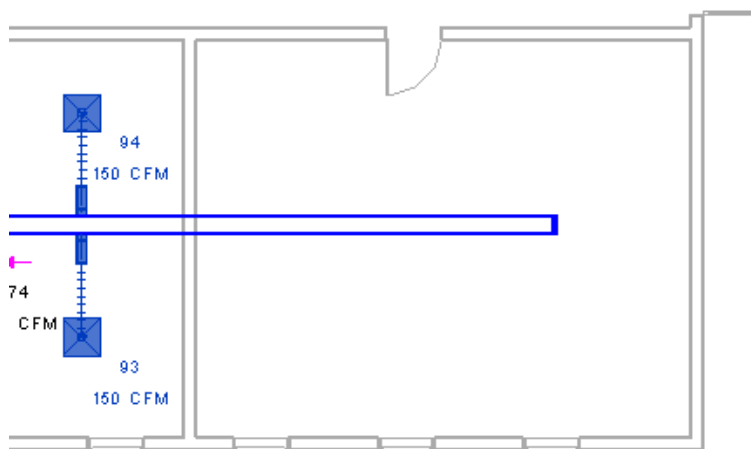

Figure 2–57
- Select the **Air Terminals** and associated ductwork as shown in Figure 2–57.